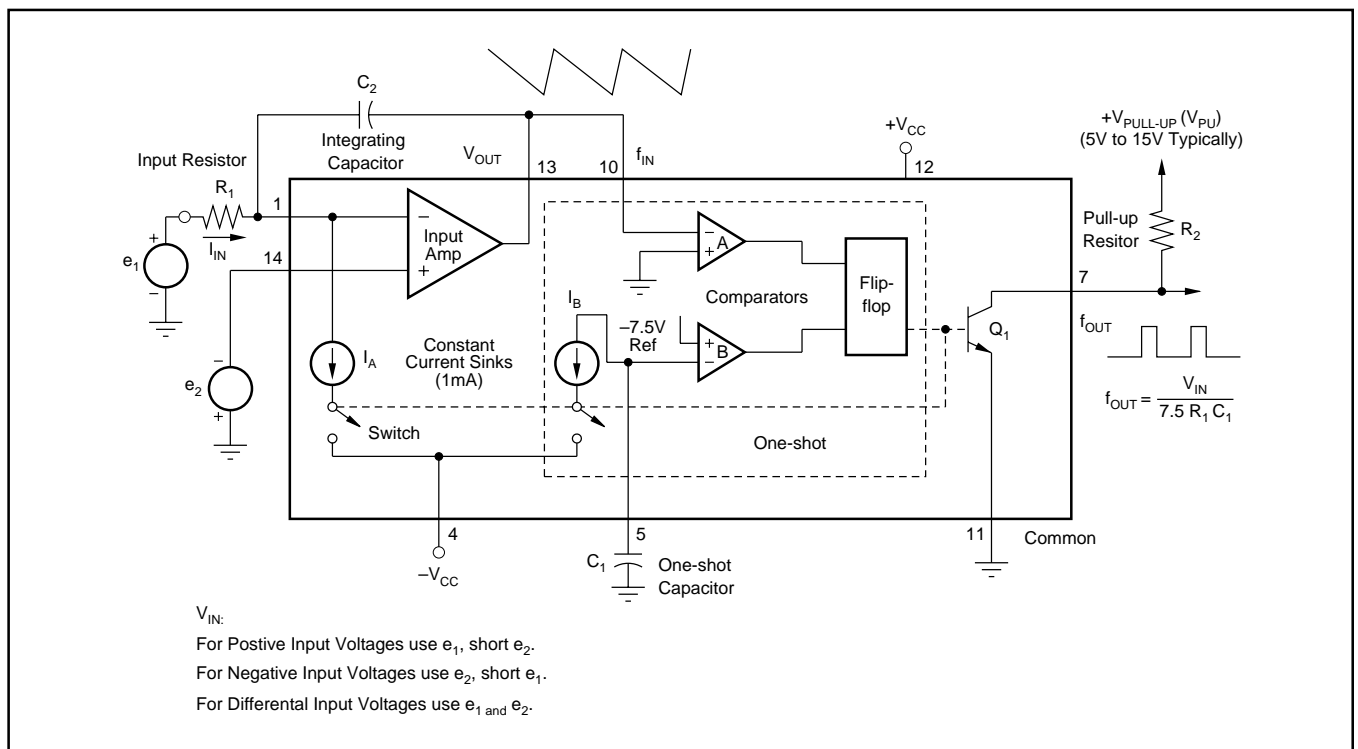
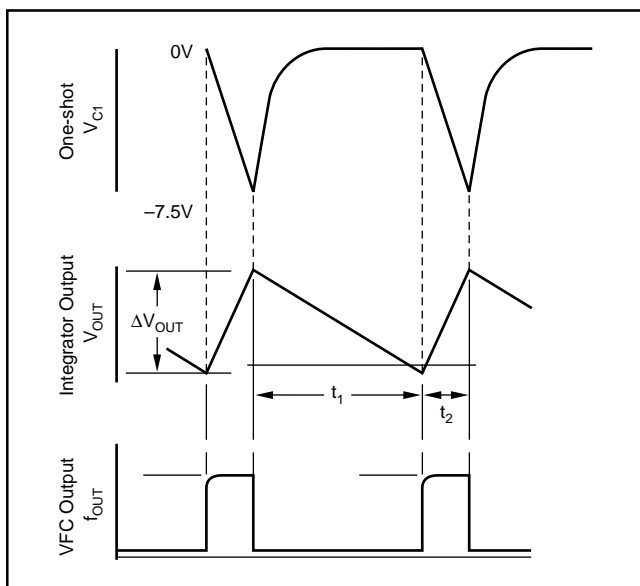

FIGURE 4. Functional Block Diagram of the VFC320.
FIGURE 5. Integrator and VFC Output Timing.
V/F CONVERTER $f_{\text{OUT}} = V_{\text{IN}}/7.5 R_1 C_1$, Figure 4
The VFC320 monolithic voltage-to-frequency converter provides a digital pulse train output whose repetition rate is directly proportional to the analog input voltage. The circuit shown in Figure 4 is composed of an input amplifier, two comparators and a flip-flop (forming an on-shot), two switched current sinks, and an open collector output transistor stage. Essentially the input amplifier acts as an integrator that produces a two-part ramp. The first part is a function of the input voltage, and the second part is dependent on the input voltage and current sink. When a positive input voltage is applied at V_{IN} , a current will flow through the input resistor, causing the voltage at V_{OUT} to ramp down toward zero, according to $dV/dt = V_{IN}/R_1C_1$. During this time the constant current sink is disabled by the switch. Note, this period is only dependent on V_{IN} and the integrating components.
The transfer function for the VFC320 is derived for the circuit shown in Figure 4. Detailed waveforms are shown in Figure 5.
In general, the design sequence consists of: (1) choosing f_{MAX} , (2) choosing the duty cycle at full scale ($D_{FS} = 0.25$ typically), (3) determining the input resistor, R_1 (Figure 4), (4) calculating the one-shot capacitor, C_1 , (5) selecting the integrator capacitor C_2 , and (6) selecting the output pull-up resistor, R_2 .